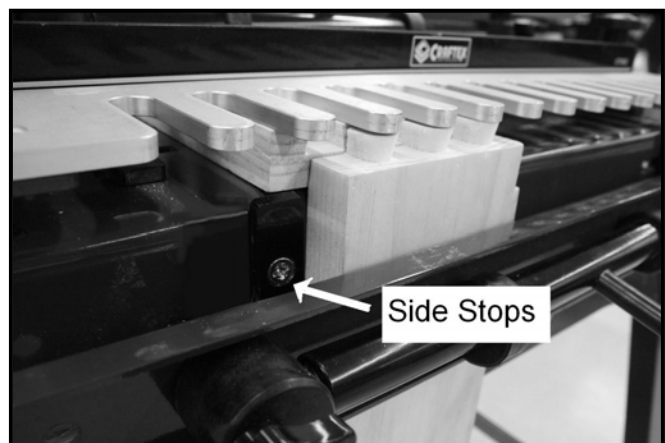

Figure-6 Shows the location of the front side stop. Note how the board is centered under the template
2. Loosen the screws on the side stop and shift the work-piece so it is centered under the template fingers shown in Figure-6. When centering ensures that the pins and tails on the ends will be identical to each other. Clamp the back in place.
When cutting the box finger joint, both pieces of stock must be put into the dovetail machine vertically as in Figure-6. One piece of stock is lined up flush to the left of one of the comb table fingers and the other piece of stock is lined up flush to the right of one of the comb table fingers.